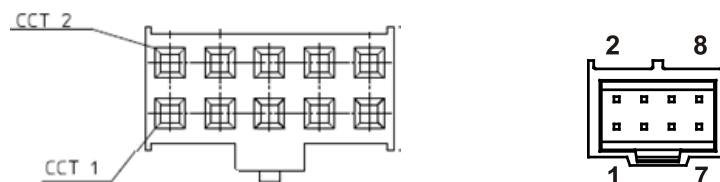

Figure 5: Molex vs Elmo Technical Diagram Examples Showing Pinout Numbers
It should be noted that in all Elmo manuals the pinouts are shown differently to Molex’s technical sheets. Molex shows pin 1 at the bottom-left when looking at the face of the cable-side connector, tab down (Figure 5).
- a. At the drive, connect the feedback drain wire to one of the COMRET terminals in the Molex feedback connector (Figure 5).